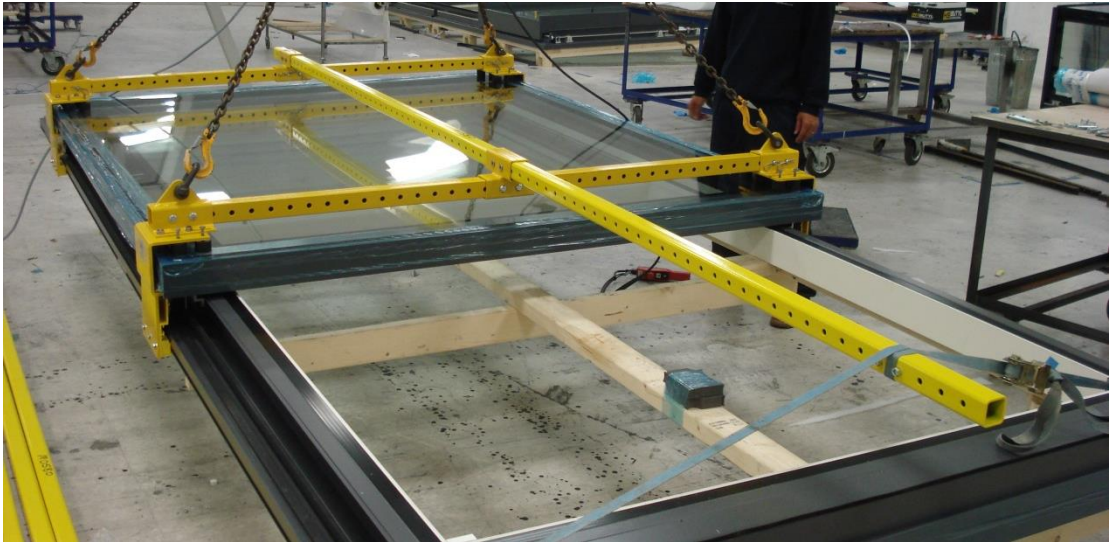
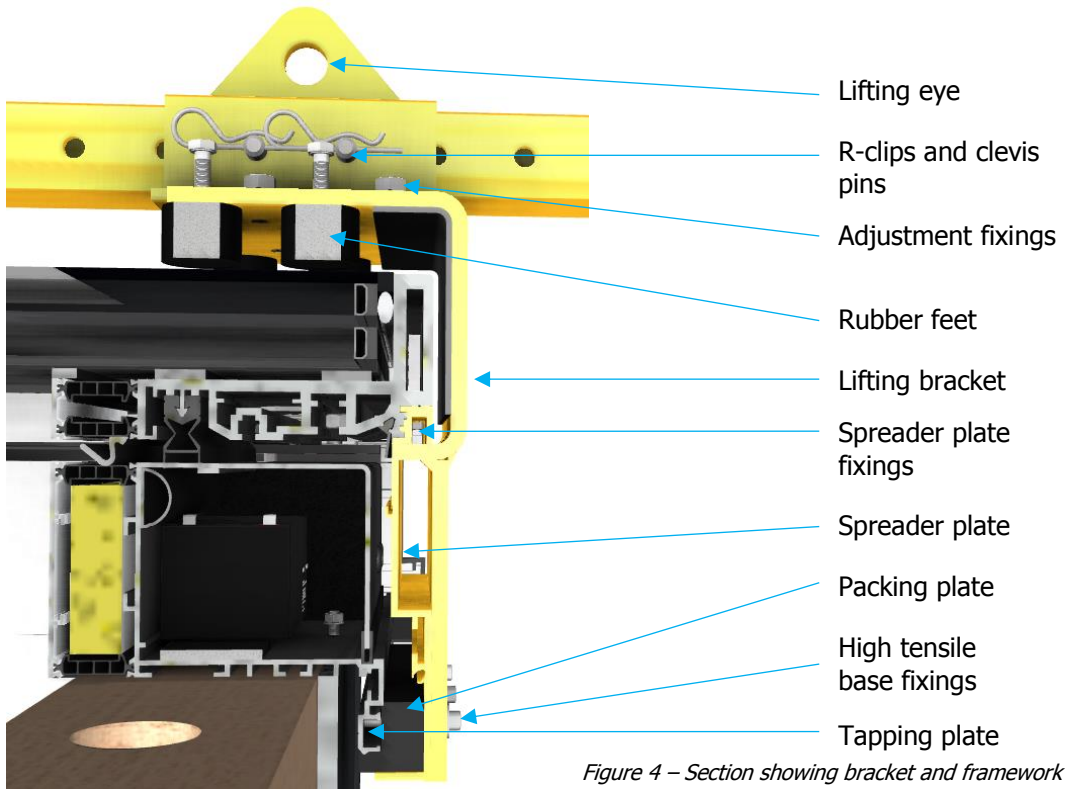

Figure 2 – Lifting frame arrangement
Figure 4 – Section showing bracket and framework
3. Position sliding frame $\frac{2}{3}$ of the way over the fixed pane, figures 2 and 3 show example position with full lifting frame assembled. Note use extended lifting beam and support open end with strop. Referring to *Figure 4 and 5*, attach spreader plates to sliding frame using M4 fixings supplied (2 per plate).
6. Attach shackles to lifting eyes (*Figure 2 and 3*). Attach chains/strops to shackles. These must be a minimum of 5 metres in length.
8. Apply two continuous runs of silicone (supplied in installation kit) to top of kerb. Position runs approximately 25mm and 100mm from outside edge of kerb (*Figure 4*).